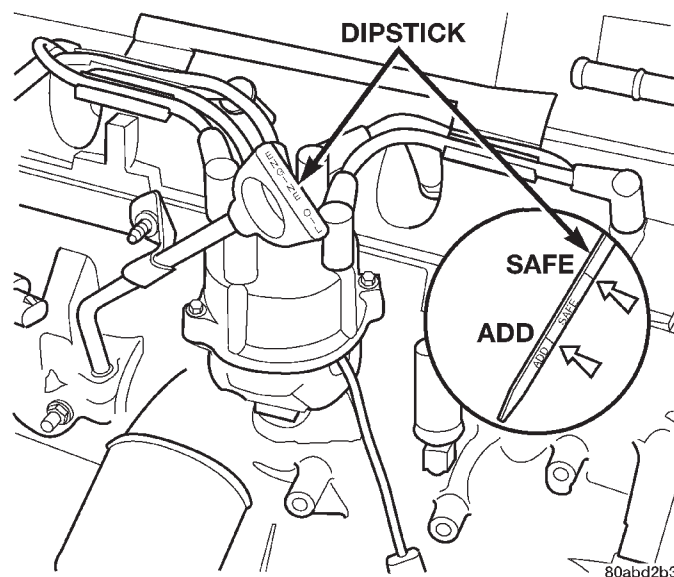

Fig. 6 Engine Oil Dipstick—2.5L Engine
To ensure proper lubrication of an engine, the engine oil must be maintained at an acceptable level. The acceptable levels are indicated between the ADD and SAFE marks on the engine oil dipstick (Fig. 6) (Fig. 7).
- (1) Position vehicle on level surface.
- (2) With engine OFF, allow approximately ten minutes for oil to settle to bottom of crankcase, remove engine oil dipstick.
- (3) Wipe dipstick clean.
- (4) Install dipstick and verify it is seated in the tube.
- (5) Remove dipstick, with handle held above the tip, note oil level reading (Fig. 6) (Fig. 7).
- (6) Add oil only if level is below the ADD mark on dipstick.